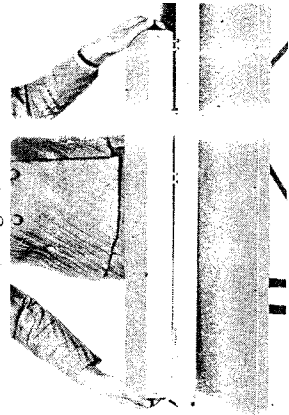

Fig. 2
2. Remove the accessory box on the needle bed, the accessory box is on the right. Lift the accessory box. (See Fig. 2)